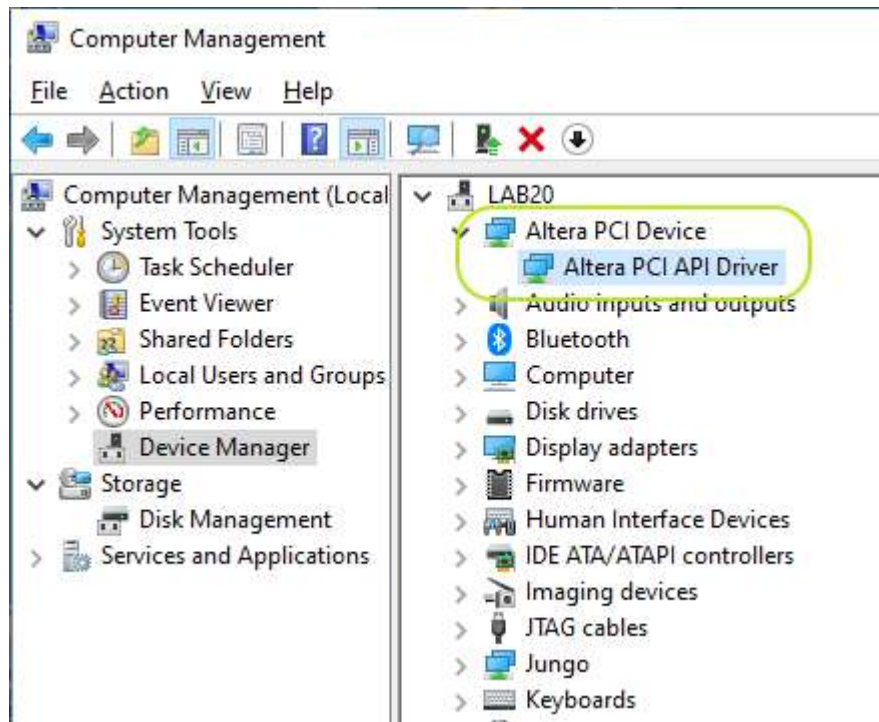

Figure 7-8 Altera PCI API Driver in Device Manager
10. Once the driver is successfully installed, users can see the **Altera PCI API Driver** under the device manager window, as shown in **Figure 7-8**.